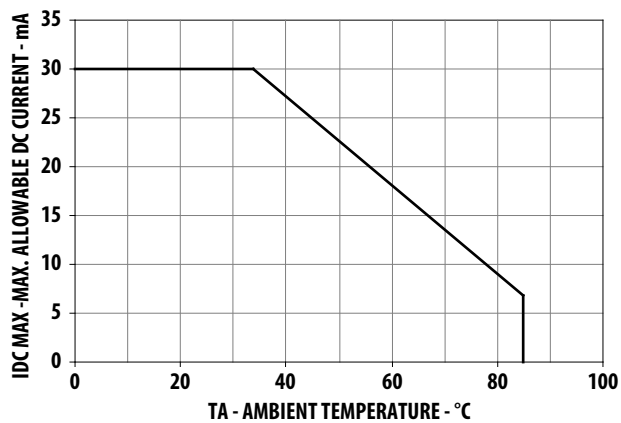

Figure 5. Maximum Forward Current vs Ambient Temperature
1. Derate linearly as shown in Figure 5.